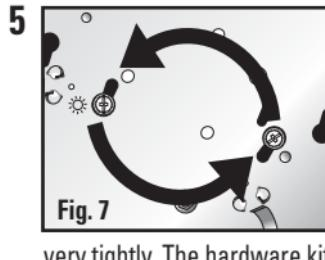

Fig. 7
Locate the key hole slots on the pan. The inner two (2) are set at a distance that will accommodate a standard electrical box mount (**Fig. 7**). Position the fixture pan over the electrical box so that the machine screws protruding from the electrical box pass through the elongated keyholes in the fixture's pan. Once both screws are through the keyholes, twist the pan, until both screws are up against the smaller end of the slot. Hold in place and tighten the screws